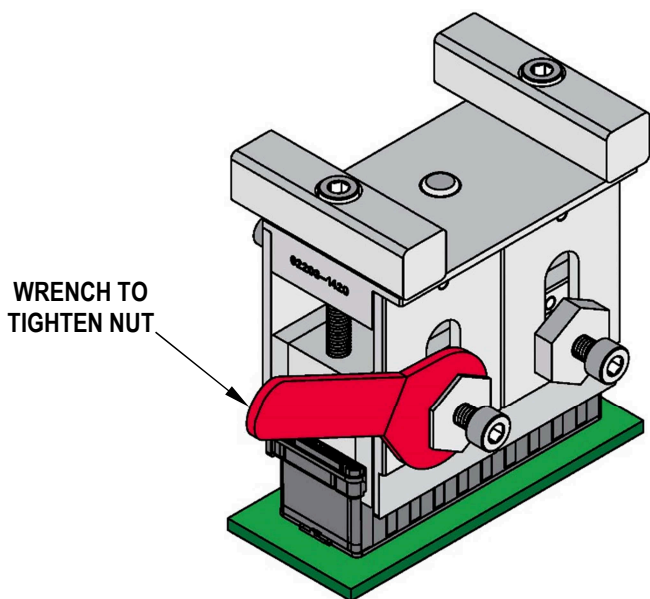

Figure 5
- To firmly grip the connector, be sure to use the provided wrench to securely tighten each Jaw Clamp Nut. See Figure 5.